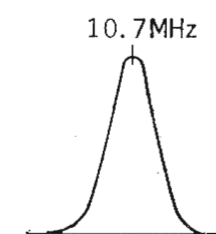

Fig. 19
- Adjust as indicated until the waveform as shown in Fig.19 is obtained.